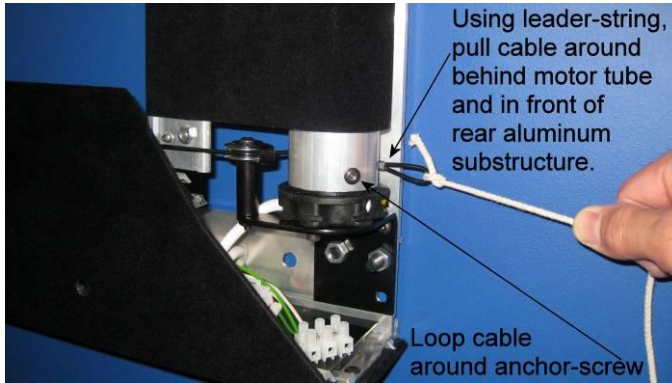
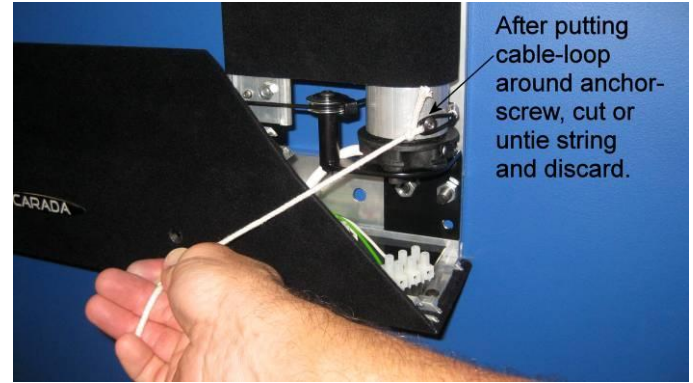

Figure 16
Figure 17
Step 17 – Squeeze cable-loop slightly and feed it through pulley-bracket while pulling other end of string to bring cable around behind motor tube (Figure 16). This step puts the mask-tensioning spring under the appropriate amount of tension, and requires approximately 20 pounds of force to pull the cable around to its anchor screw. Be careful not to pull cable too far past the anchor screw or you could damage the spring. Loop cable around anchor-screw and untie or cut string off of cable (Figure 17). Repeat for other three control cables.